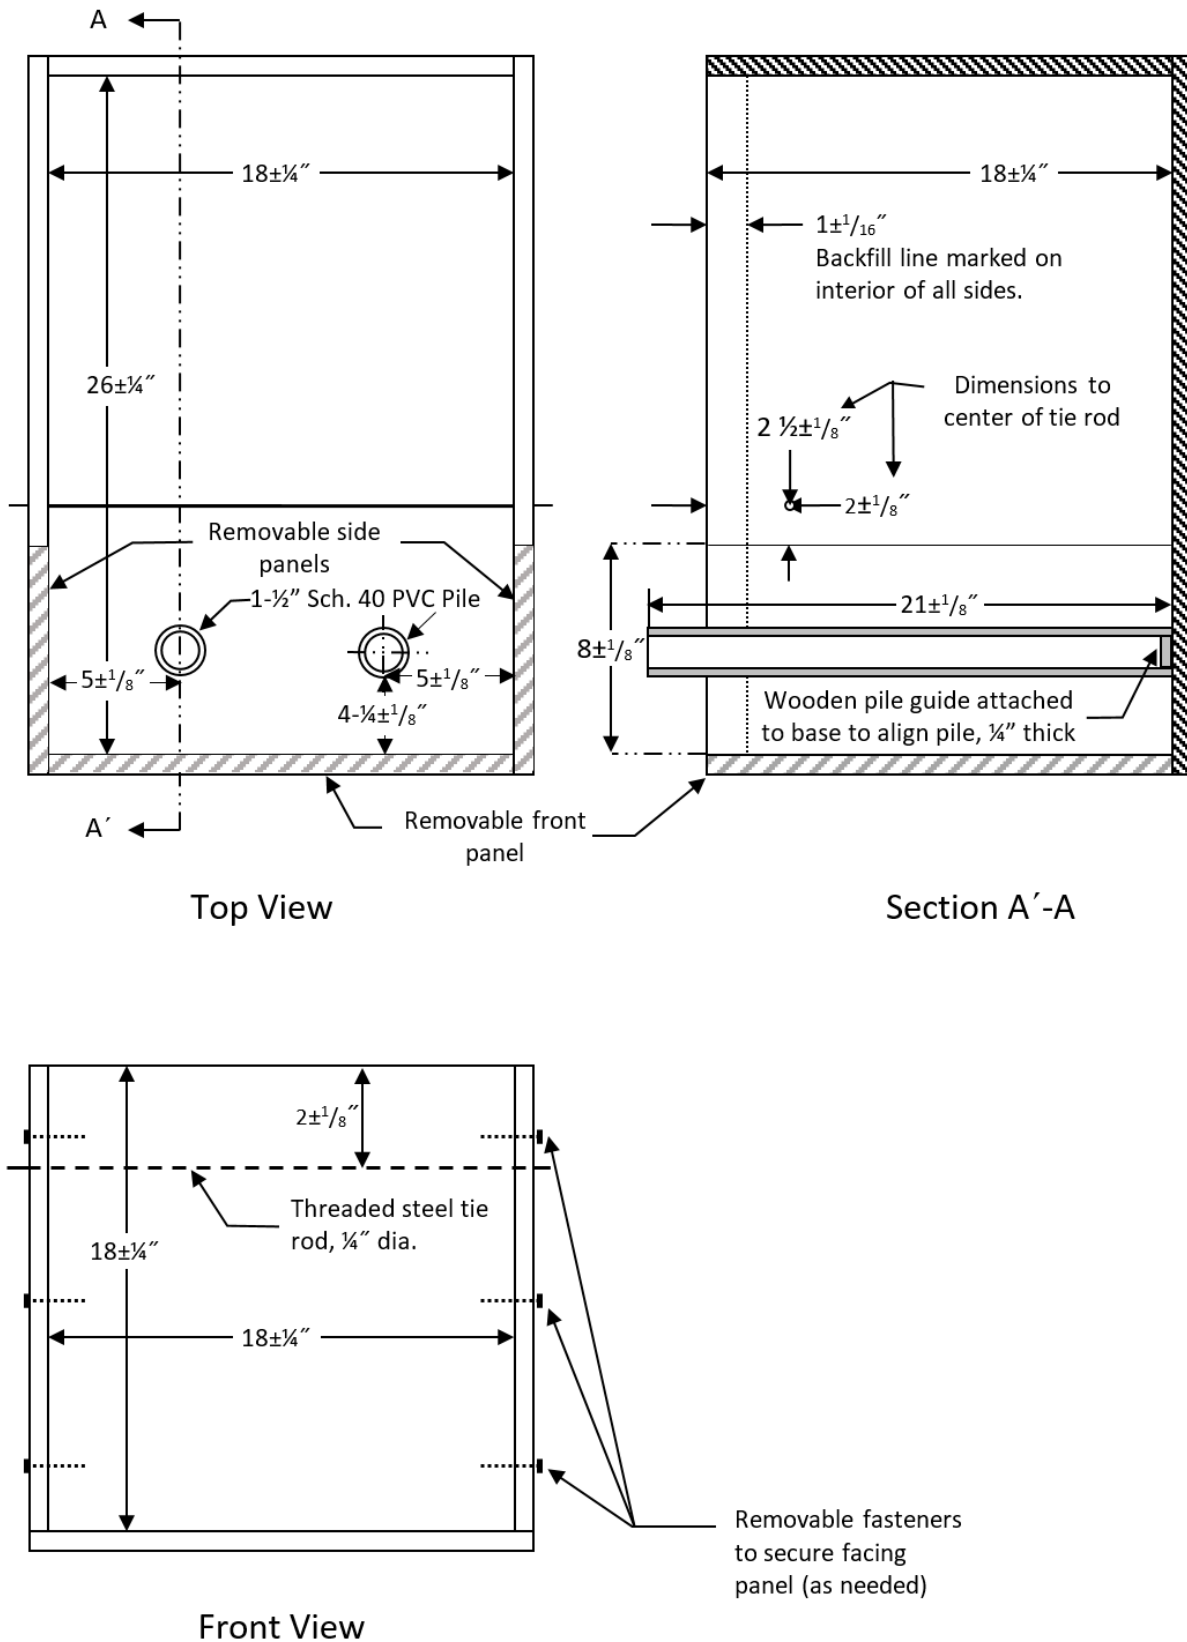

Figure 2: Sandbox dimensions (not to scale)
6. **Sandbox** – The MSE wall is to be constructed within an apparatus hereafter referred to as a sandbox. Each team shall bring their own sandbox to the competition. Painting and the addition of school or sponsor logos and other decorations to the exterior of the sandbox is highly encouraged. The sandbox shall be made up of a bottom and four vertical sides with no top. The front panel and part of the two side panels are removable as shown in Figure 2. The removable box panels will be in place during wall construction and removed after construction to expose the MSE wall. The sandbox will also include two PVC piles as shown in Figures 2 through 4. The sandbox shall meet the following requirements:
- c) Have removable front and side panels as shown in Figure 2. Panels must be flush with the base of the box and held in place with threaded inserts, screws, hinges or other easily removable fasteners.
- h) All dimensions of the sandbox shall be as shown in Figures 2 and 3.
7. **Piles** – Two vertical piles will be used to apply the horizontal load to the backfill behind the wall. Each team will provide their own piles. Piles will be fabricated out of 1½ inch Schedule 40 PVC pipe. Please see Figure 2 for the pile locations and length requirements.
- c) **Construction Stage** – After the wall is assembled and checked by the judges, the judges will instruct the team to start construction. During this stage, the team fills the box with sand so that the sand fill line (see Figure 2) is covered and the backfill is level, and places the empty rectangular vertical surcharge bucket on top of the sand. The facing material must be in direct contact with the inside of the sandbox at all times during this stage. The tie rod may be removed from the box at the start of this stage, but it must be in place before any sand is placed in the box. Temporary templates or guides may be used during this stage so long as they are removed before the end of the stage.